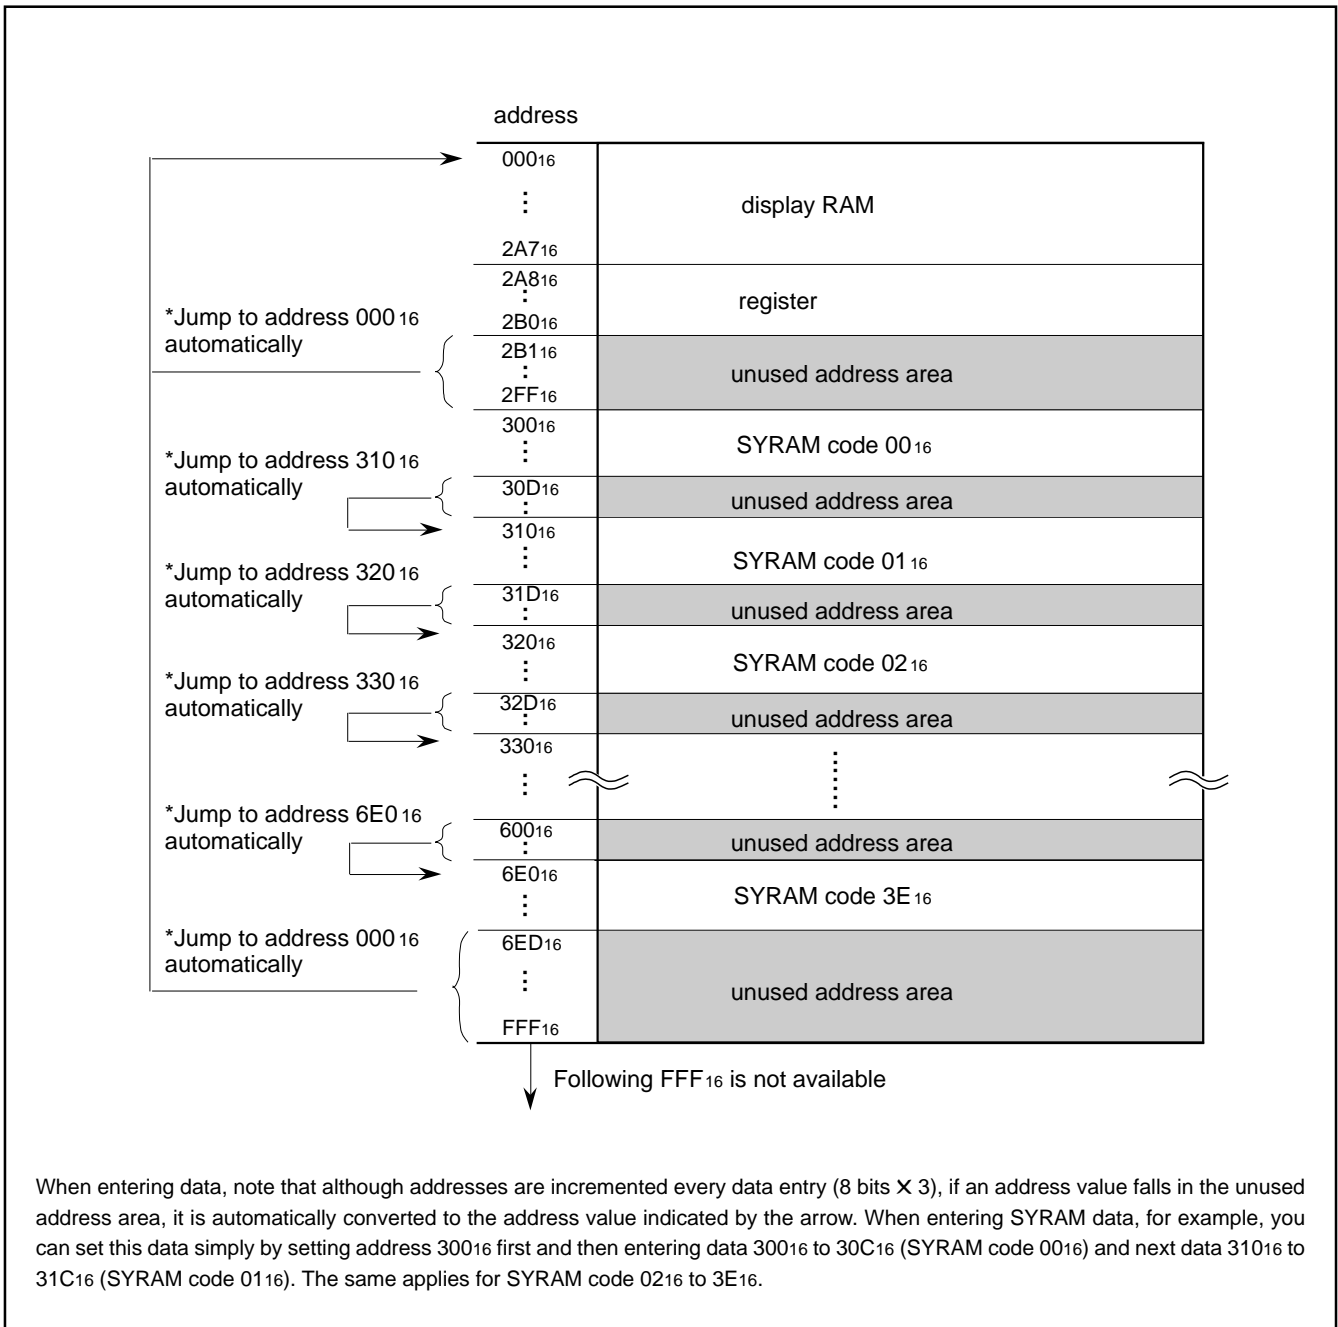

Fig. 12 Address construction
- (1) The address consists of 8 bits X 3.
- (2) The data consists of 8 bits X 3.
- (3) The 8 bits X 3 in the SCK after the \overline{CS} signal has fallen are the address, and for succeeding input data, the address is incremented every 24 bits (8 bits X 3). Refer to Fig.12 about detail for address increment.